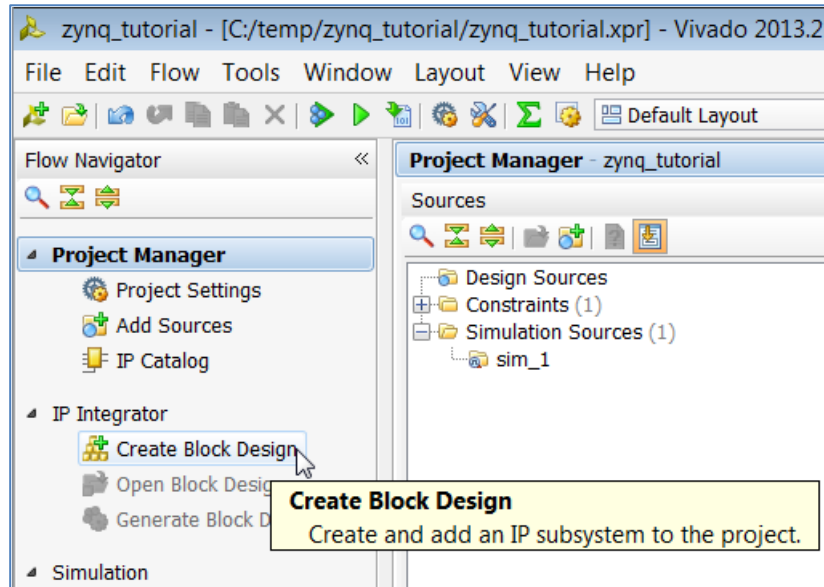

Figure 3: Create Block Design from Flow Navigator
1. In the Flow Navigator, select **Create Block Design** (Fig 3).